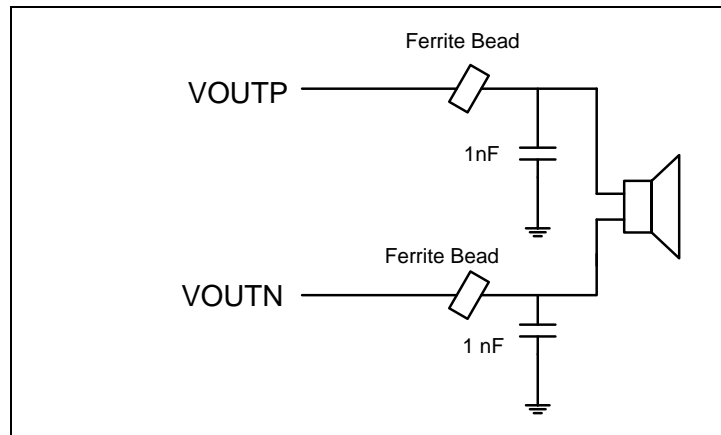

Figure 14 NAU8318 Speaker Connections with Ferrite Bead Filters
**Ferrite Bead Filters** are used to reduce high-frequency emissions. The characteristic of a Ferrite Bead Filter is such that it offers higher impedance at high frequencies. For better EMI performance, select a Ferrite Bead Filter which offers the highest impedance at high frequencies, so that it will attenuate the signals at higher frequencies. The typical circuit diagram using a Ferrite Bead Filter for each output to the speaker is shown **Figure 14**.